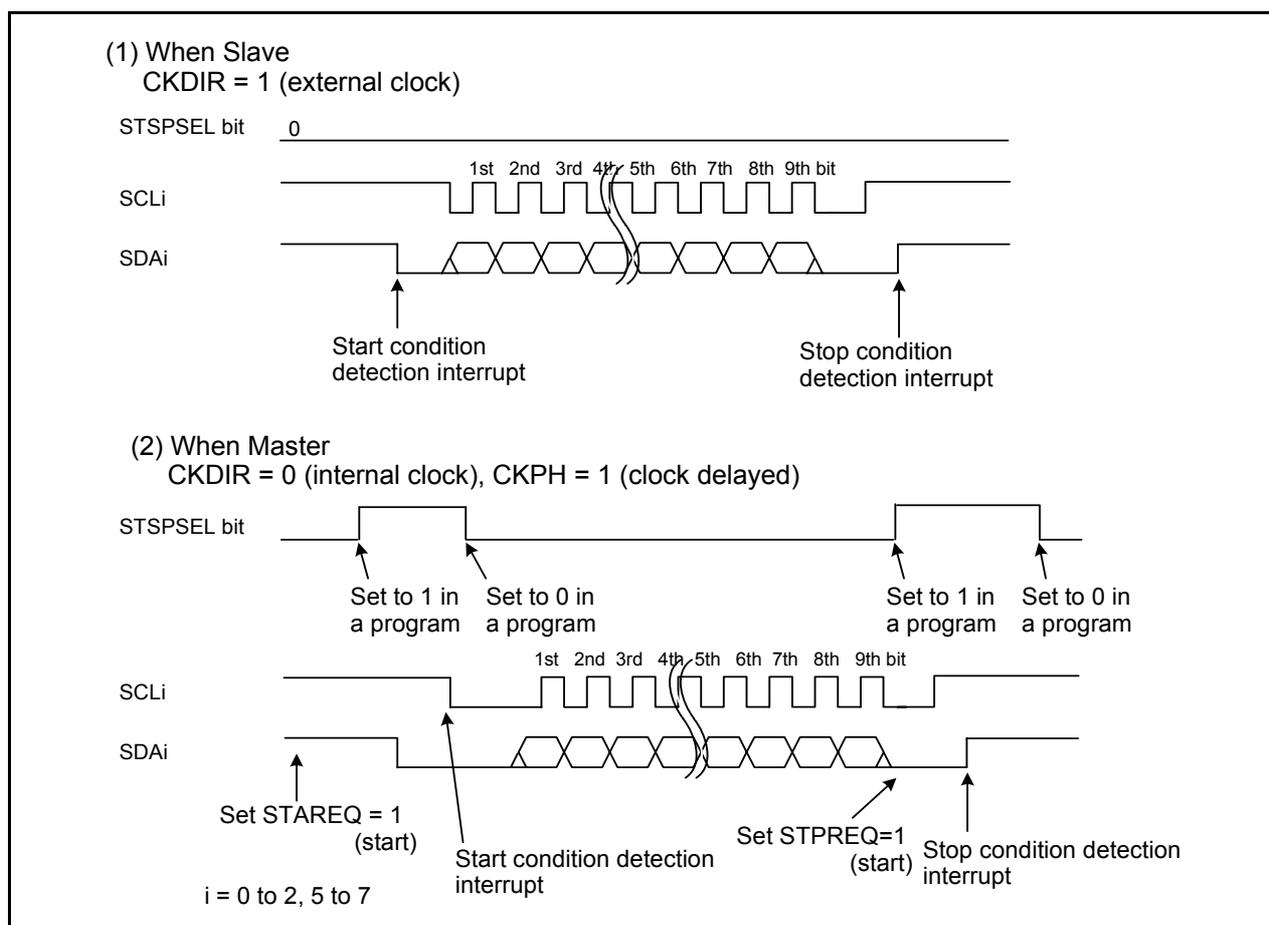

Figure 17.27 STSPSEL Bit Functions
5. See Figure 17.27 "STSPSEL Bit Functions".